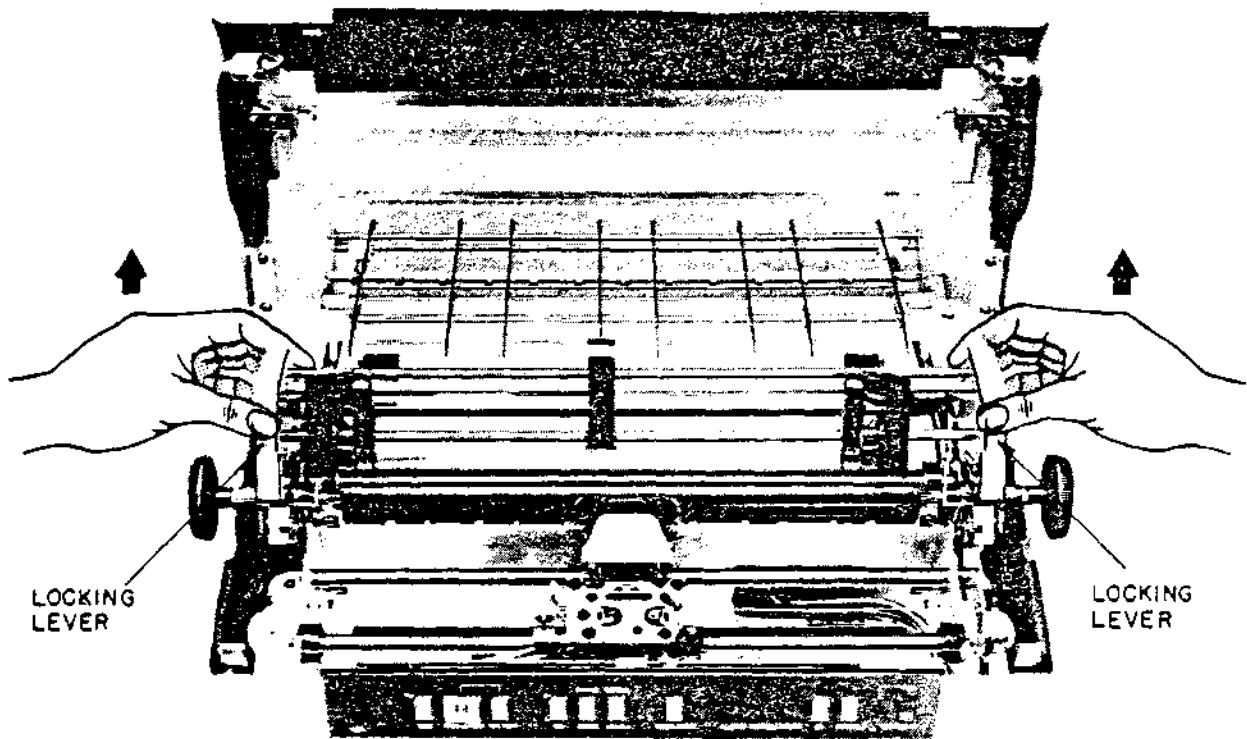

Figure 3-4 Vertical Type Tractor Assembly Removal
- c. Press the lock levers and raise the assembly upward and toward the rear of the printer to remove it (Figure 3-4).